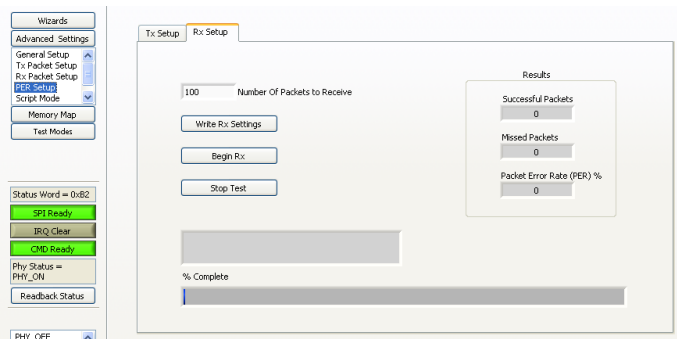

Figure 31
- Click on the “Advanced Settings” button, on the Rx GUI instance, and navigate to the PER option. Select the Rx Setup tab in the new window (Figure 31).